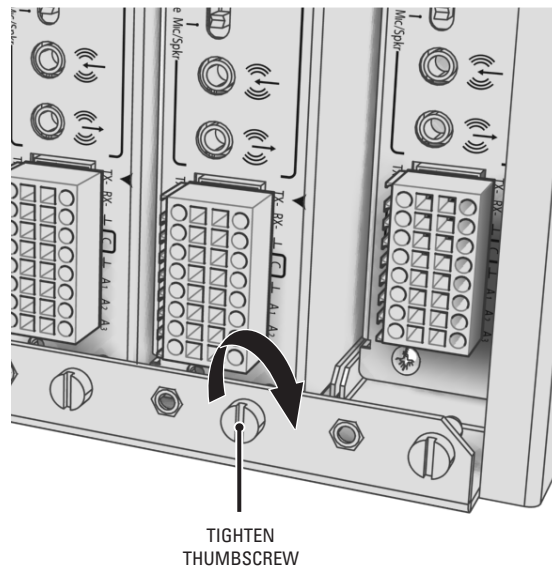

Figure 6. Tighten Thumbscrew to Secure the Unit
3. Tighten the thumbscrew on the rack mount to secure the unit into the rack (refer to Figure 6).